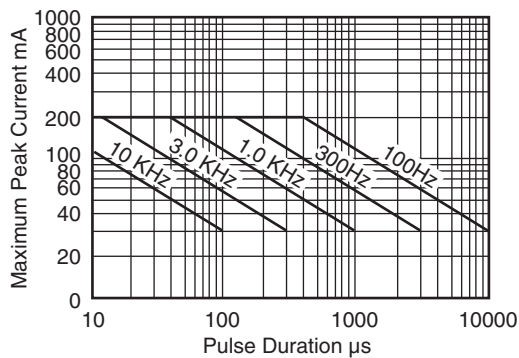

Fig. 3 Maximum Peak Current vs. Pulse Duration
2. The curve in Figure 3 is normalized to the brightness at 25°C to indicate the relative efficiency over the operating temperature range.